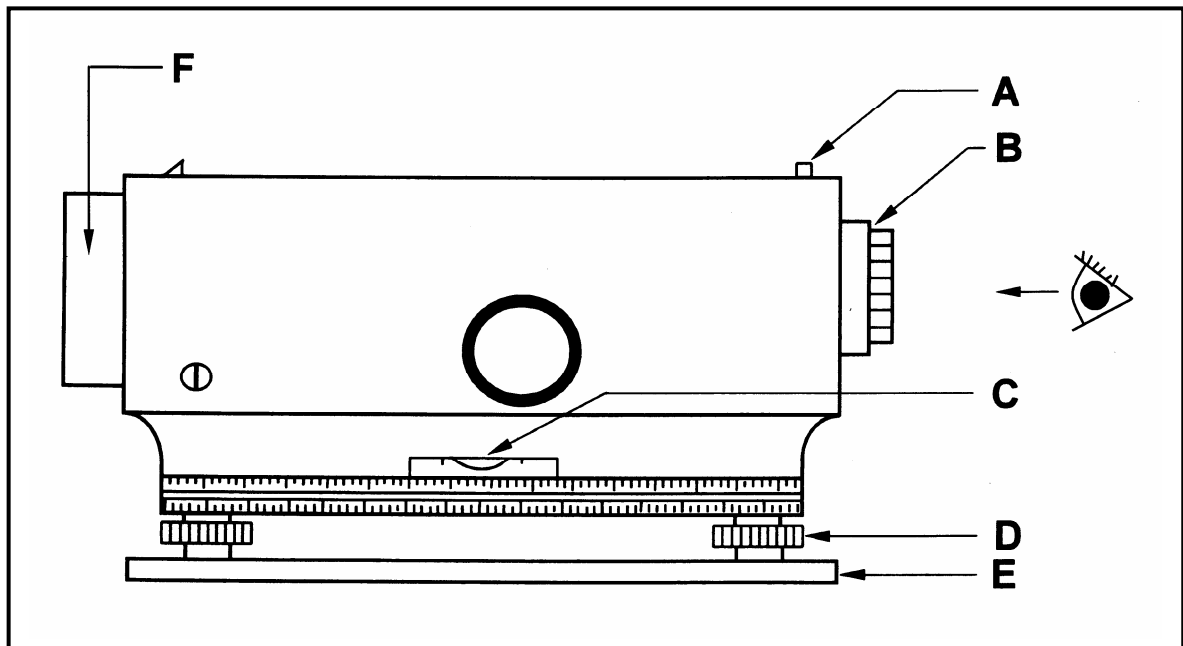

FIGURE 1.2
- 1.2 FIGURE 1.2 below shows a dumpy level. Study the illustration and answer the questions that follow.